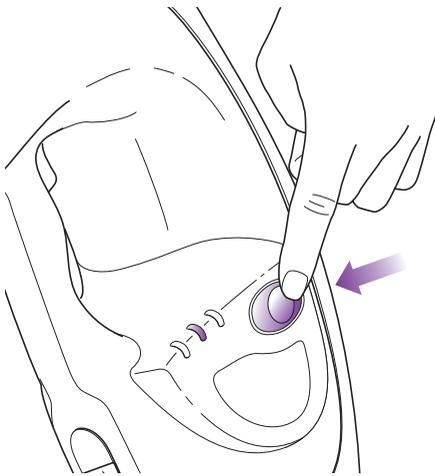

fig. 9
- 3 Press the **ON/STANDBY** button once for **DUST** setting (**DUST** lighted setting indicator will illuminate). **DUST** setting is a light steam for a quick dusting and best dry time. (fig. 9)